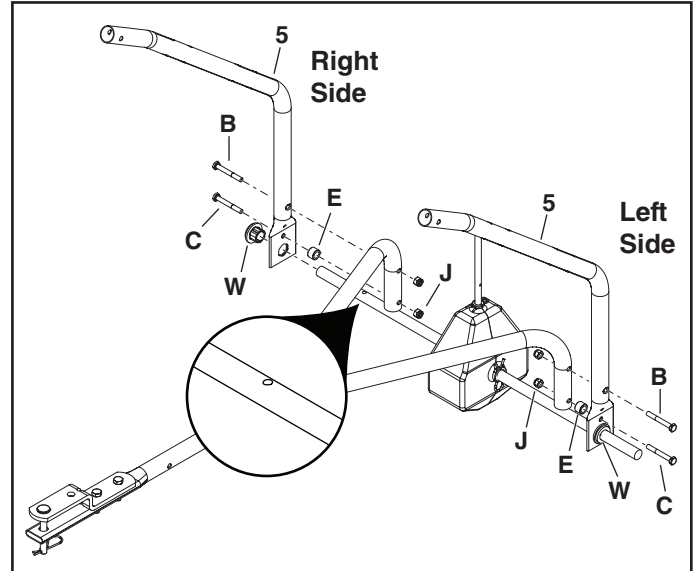

FIGURE 3
STEP 3: (SEE FIGURE 3)
- Insert the hex bushings (W) into the ends of the hopper support tubes (5).
- Assemble the axle/gearbox assembly and hopper support tubes (5) to the hitch support tubes as shown, using two 1/4" x 2-1/2" hex bolts (B), two 1/4" x 2" hex bolts (C), spacers (E), and 1/4" nylock nuts (J). **Do not tighten completely.**